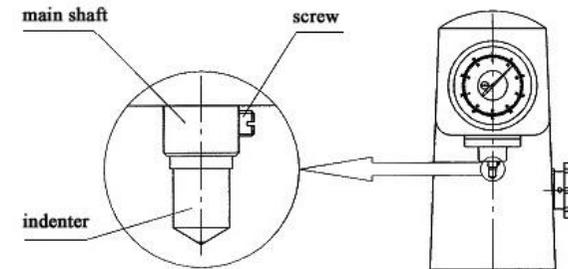

Figure 12
1.3 Install indenter (see Fig 12)